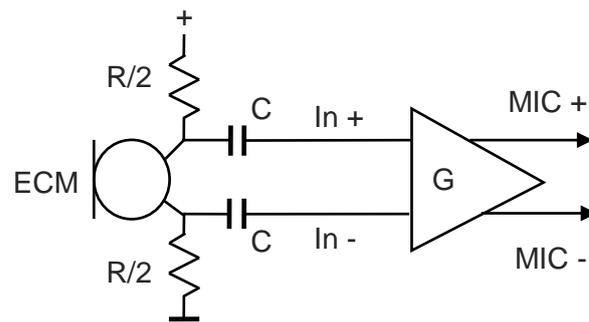

Fig. 23: Balanced Bias Circuitry
- Use, if balanced circuitry, equal load resistors for differential source on both differential tracks, refer to Fig. 23. For ECM microphone refer to chapter 14.2.